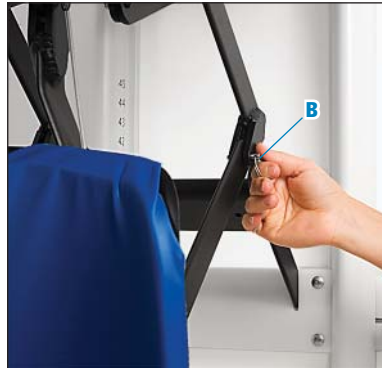

Figure 9b
To remove the kneeboard, pull out the four quick-release pins (B) underneath the trunk board. To install the kneeboard, line up the braces and insert the pins (see Figure 9b).